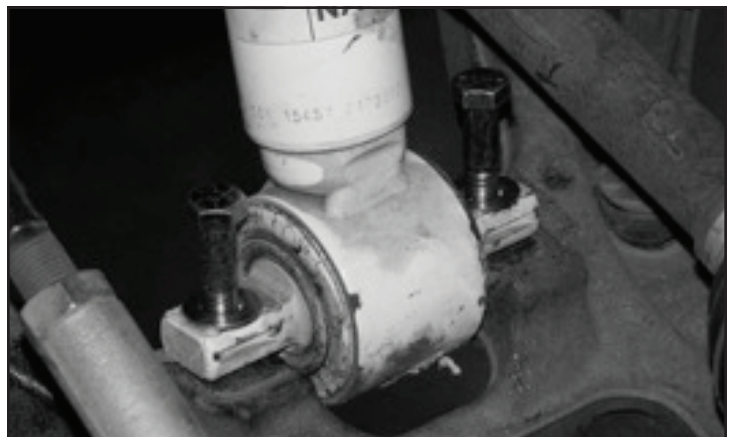

FIGURE 35 - STEP 35
35. Locate the two 7/16"-14 x 2-1/4" bolts, nuts and washers and install the lower bar pin mount onto the lower control arm. Torque the upper and lower bolts to 59 ft-lbs. **SEE FIGURE 35**